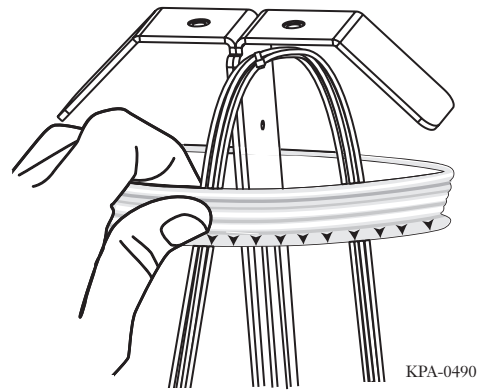

Figure 48 — Sealing Ring
- Step 1** Roll the sealing ring over frame (Figure 48) and down to the end cap with arrows as shown.